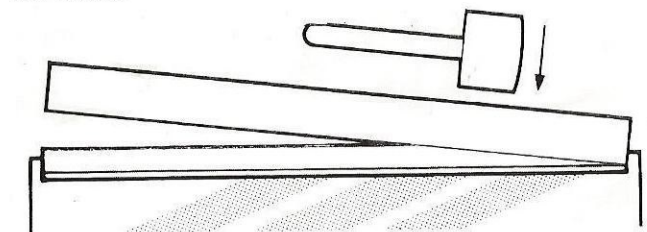

Figure 6
c) Place a cut length of Section E exactly over the gasket and starting at one end, gently tap it down (Figure 6). Avoid hitting the aluminium with a metal tool.